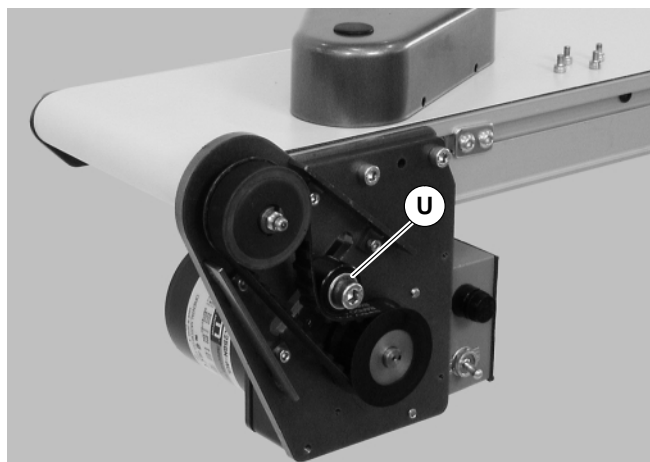

Figure 10
2. Loosen tensioner (U of Figure 10).
4. Loosen tensioner (U of Figure 10).